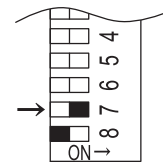

Fig. 3
9. Set appliance to 'Forced Low' combustion by setting No. 7 dip switch of the (SW1) set of dip switches to 'ON'. (Fig.3).